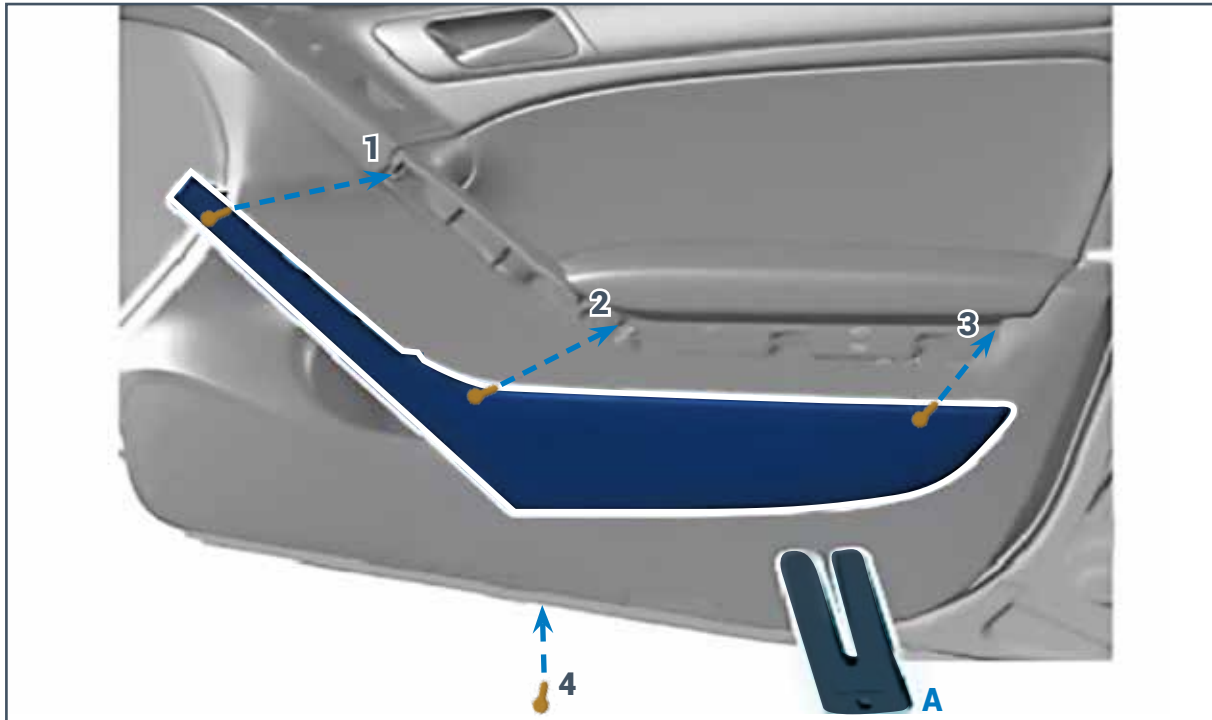

Fig. 10
7.1.1 Remove the door covering grille using a plastic lever, then loosen screws **1**, **2**, **3** and **4** (Fig. 10)